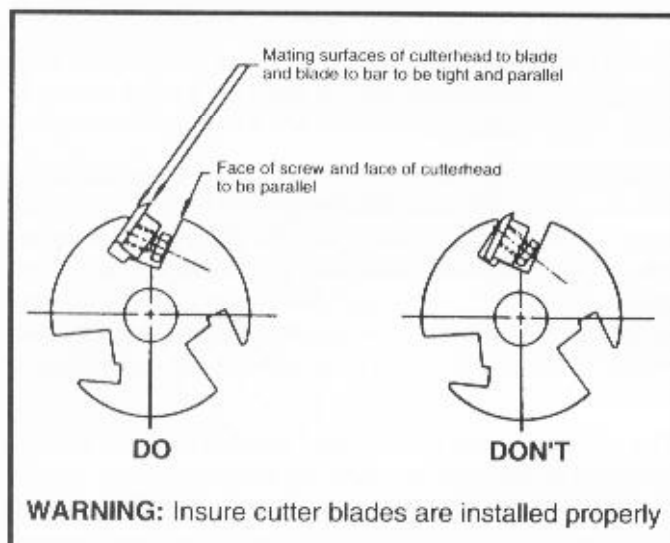

Fig. 38
2. Carefully place the knife in its slot in the cutterhead as far down as possible and tighten the four locking screws just enough to hold the knife in position. Replace all three knives in this manner. **IMPORTANT:** Make certain knives, locking bars and locking screws are installed properly in the cutterhead. Fig. 38, illustrates the correct position of the knife, locking bar and locking screws in the cutterhead slot.